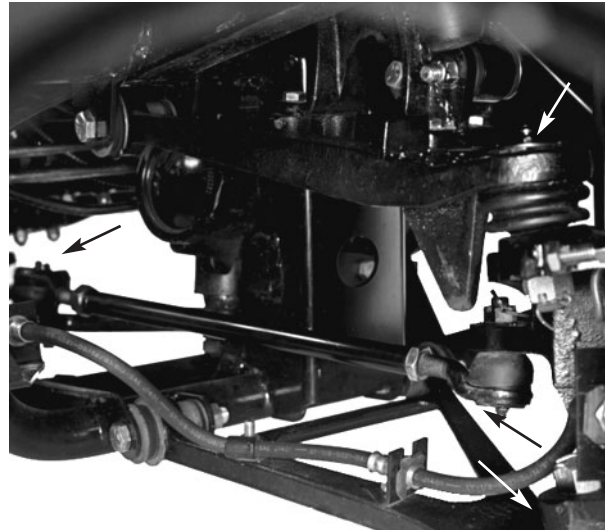

Figure 28
Greasing Bearings And Bushings (Fig. 28–34)
The grease fitting locations and quantities are: Tie rod ends (4) (Fig. 28), Front ball joints (4) (Fig. 28), Rear drive shafts (18) (Fig. 29) Front pivot bushings (2) (Fig. 30); Mid drive shaft -4 wd only (3) (Fig. 31); Pedal Pivots (4) (Fig. 32); Steering shaft (1) (Fig. 33) and Accelerator Arm (1) (Fig. 34).